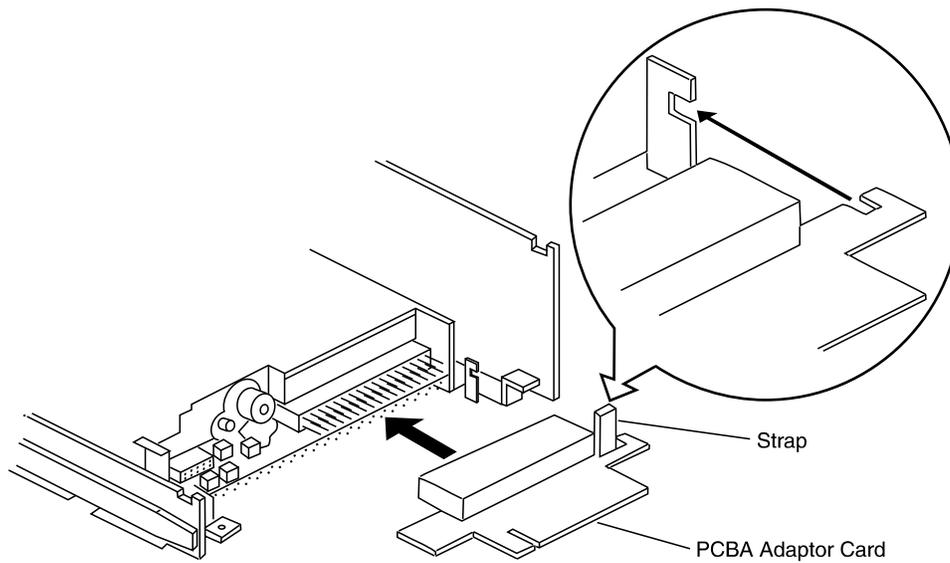

Figure 7-8. Floppy Disk Drive Unit PCBA 5-Inch Adapter Card
9. Place the floppy disk drive assembly on an ESD-protected surface and carefully remove the PCBA 5-inch adapter card (Figure 7-8).
6. Attach the PCBA adapter card, being careful to align the tabs shown in Figure 7-8.